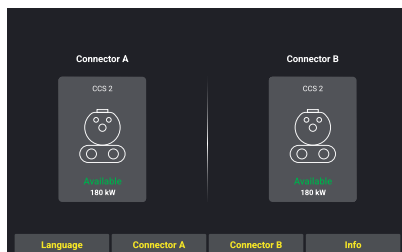

Figure 6-3 Connector Selection
B. Using mechanical buttons below the operation screen, select connector A or B (see Figure 6-3 Connector Selection)